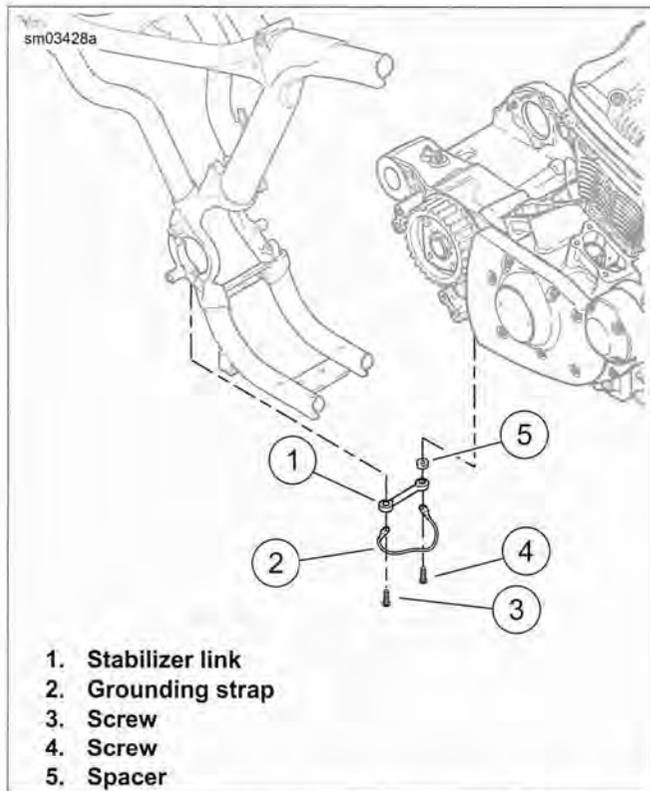

Figure 3-22. Rear Stabilizer Link Assembly (typical)
30. See Figure 3-22. Remove screws (3, 4), grounding strap (2), stabilizer link (1) and spacer (5).